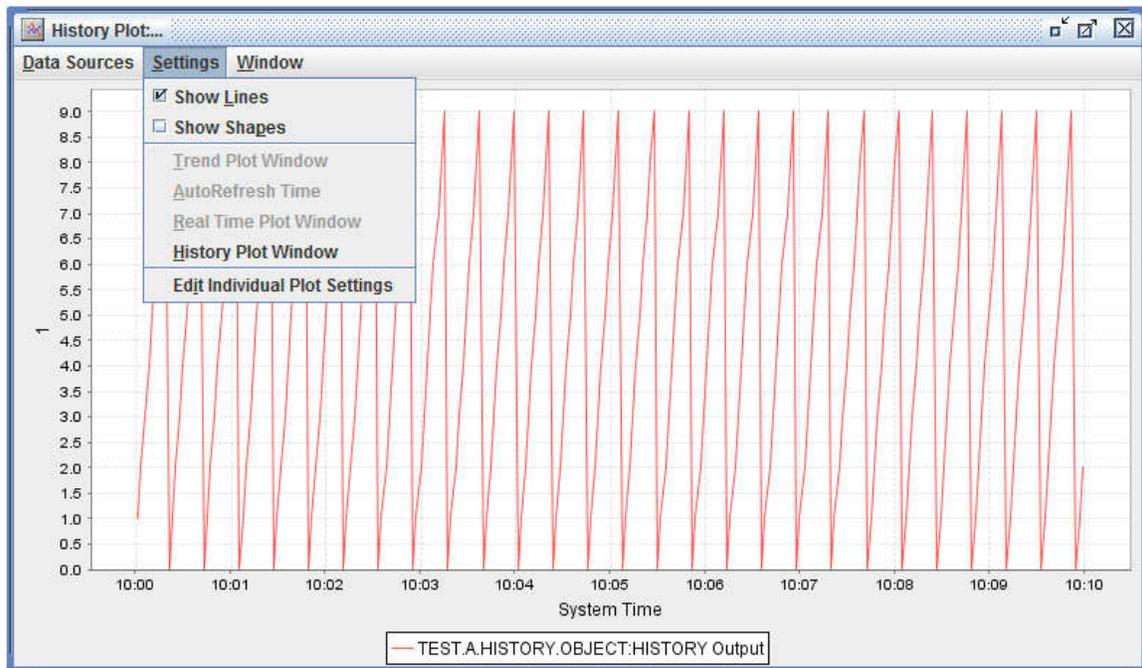

Figure 87 - Settings menu in the History Plot window
Figure 87 shows the Settings menu in the History Plot window. Using the Settings menu, a user can do the following:
1. Click the History Plot Window command as show in Figure 87 to open the Object History Plot Window (Figure 88).